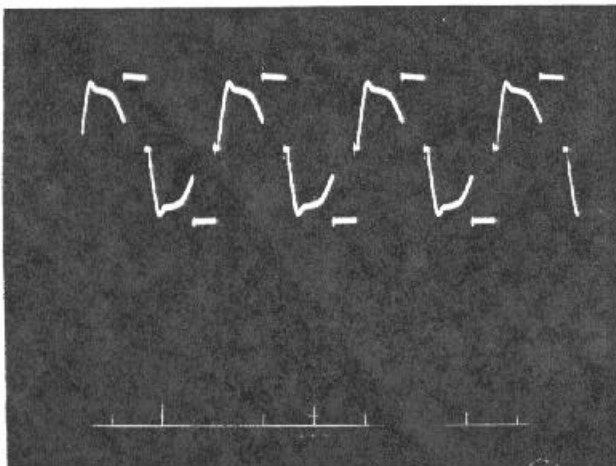

Fig. 17
In actual operation, the output voltage (V_{out}) expressed by formula (1) is maintained at a stable level. Consequently, when load fluctuation or fluctuation of the primary (battery) voltage occurs, the PWM circuit illustrated in Fig. 17 and 18 to control the pulse width of the gate voltage at A.